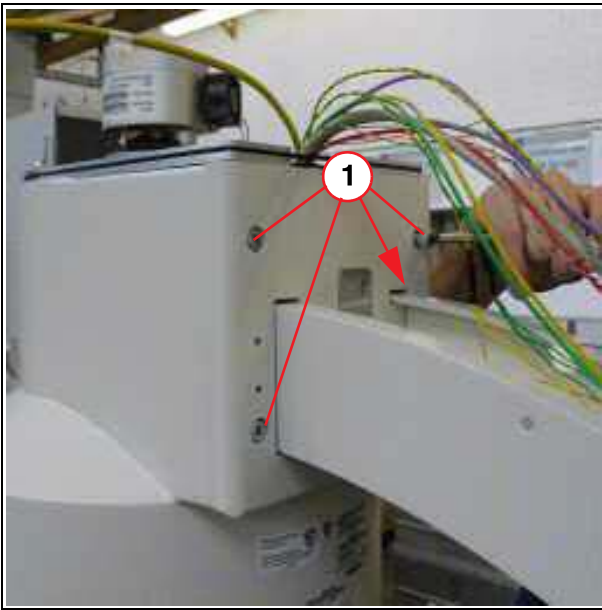

Fig. 20: I. I. cable
2. Take the new I. I. to the C-arm holding device and screw in the 4 Allen screws (1/Fig. 20 / p. 45) to reattach the I. I. (use Loctite 221).